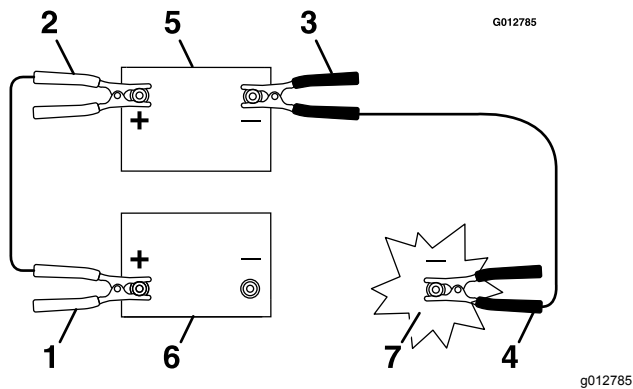

Figure 84
2. Carefully slip back the insulator cover of the positive battery cable (Figure 84).
- Connect the positive (+) cable clamp (red) to the positive (+) terminal of the discharged battery (Figure 84).